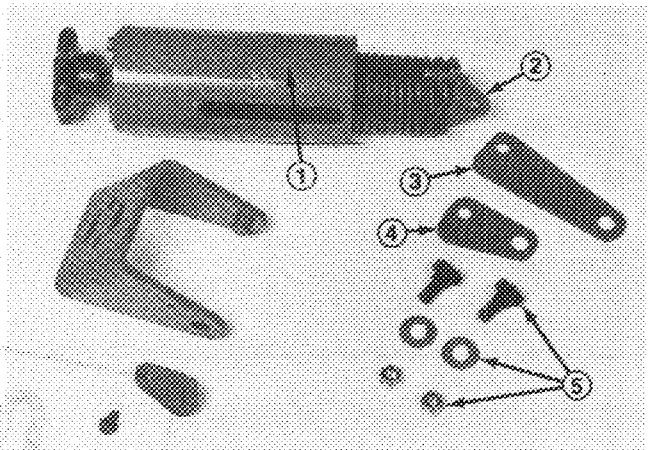
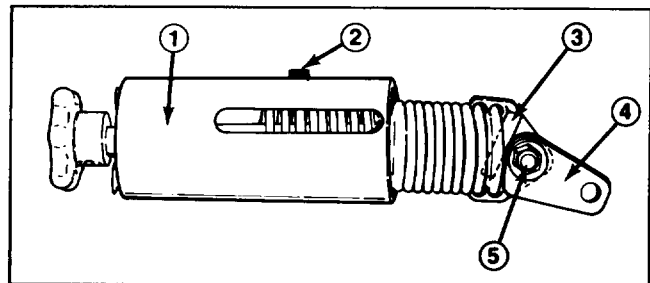

Figure 4
Figure 5
5. Attach the knee link bracket(s) to the bottom spring end plate(s) using a shoulder bolt, flat washer, and locknut (Fig. 4). Do not over tighten the shoulder bolt, bracket should pivot freely. Position brackets as shown in figure 5.